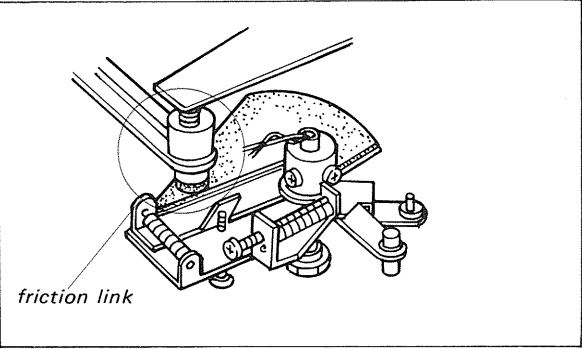

Fig. 1-3. Detail of friction link
The tone-arm is swept inwards by means of the friction link between the tone-arm return lever (21) and tone-arm lever assembly (29) as shown in Fig. 1-3. Proper friction is obtained by pressing the friction pin (30) mounted at the end of tone-arm return lever (21) with the main lever (27).